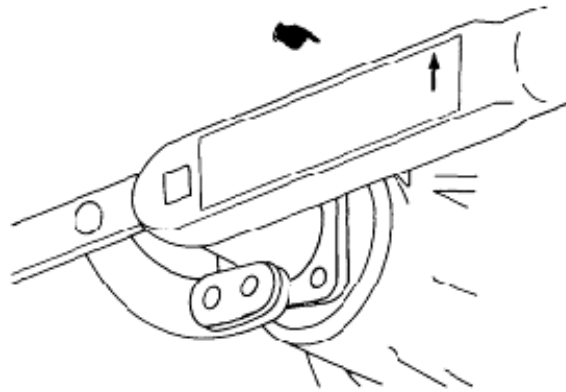

Figure 88 Front Differential Pinion Flange Nut Removal
- d. Using special tool adjustable wrench (Table 3, Serial 4), to prevent the coupling flange rotating, remove the flange slotted nut (Figure 88).